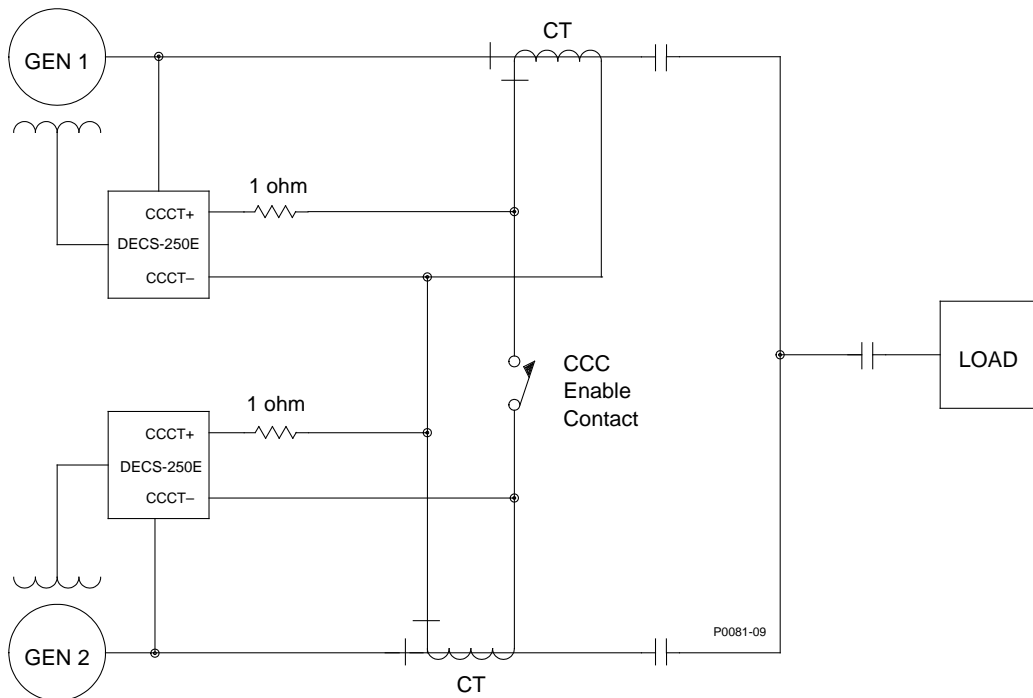

Figure 14. Connections for Cross-Current Compensation
Cross-current compensation (reactive differential) mode allows two or more paralleled generators to share a common load. As shown in Figure 14, each generator is controlled by a DECS-250E using the DECS-250E cross-current compensation input (terminals CCCT+ and CCCT-) and a dedicated, external current transformer (CT) to sense generator current. The resistors shown in Figure 14 are used to set the burden and may be adjusted to suit the application. Ensure that the power rating of the resistors is adequate for the application.